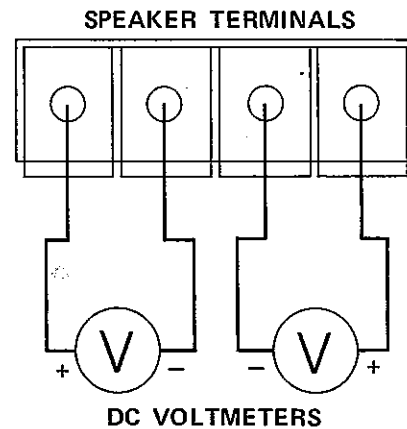

Fig. 19
A. Connect one DC voltmeter to the left and one to the right channel of the SPEAKER terminals. (See Fig. 19)